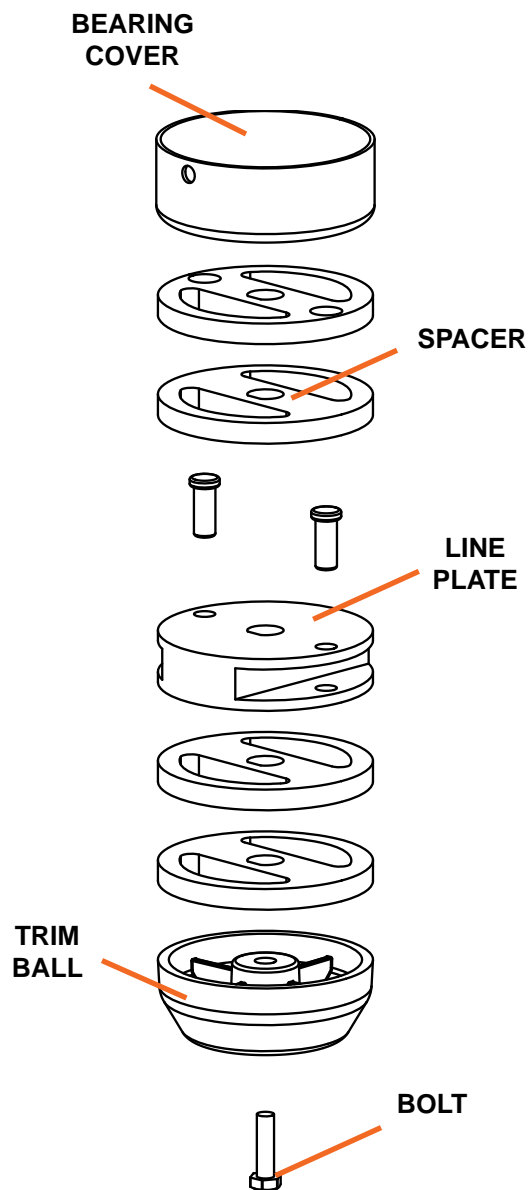

Figure 11
**Improper installation can cause damage to the trimmer bearings. Follow directions carefully to protect the trimmer/mower from damage.** Assemble components in the order shown (see figure 11.)
1. Place the spacer and bearing cover (with the lip facing up) onto the shaft (Figure 11).